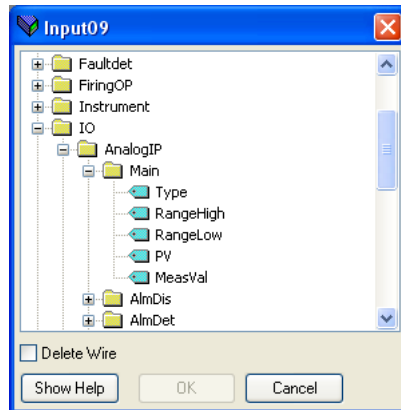

Figure 141 Browser window
1. Double click the next available position in the input or output data table and select the variable to assign to it. A pop-up (Figure 141) provides a browser from which a list of parameters can be opened.